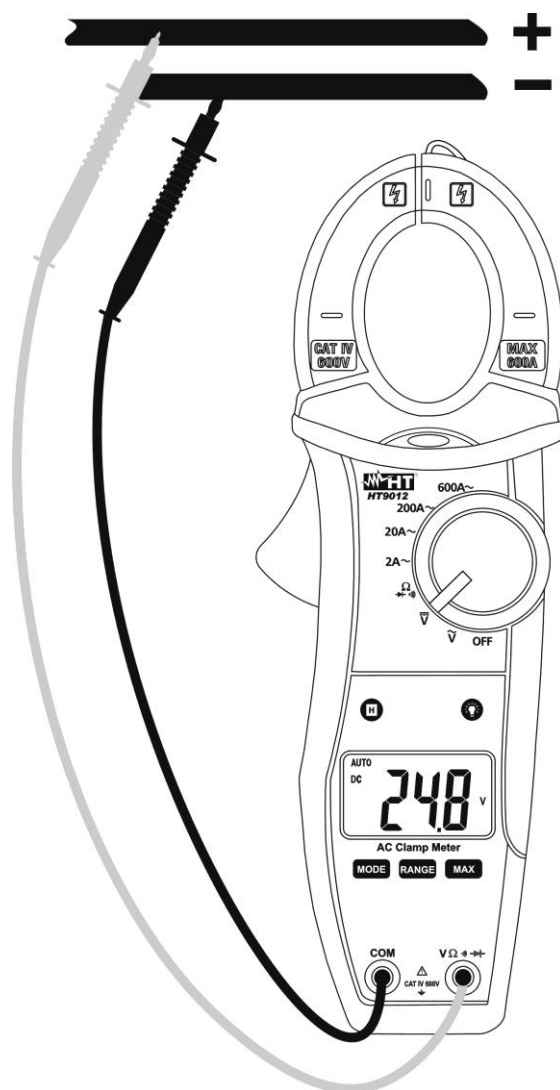

Fig. 3: Taking DC voltage measurement
4. Connect the two long ends of test leads to the desired circuit (see Fig. 3) then reading will be displayed
6. The “-” symbol at display means that the voltage have an opposite sign respect the connection of Fig. 3)